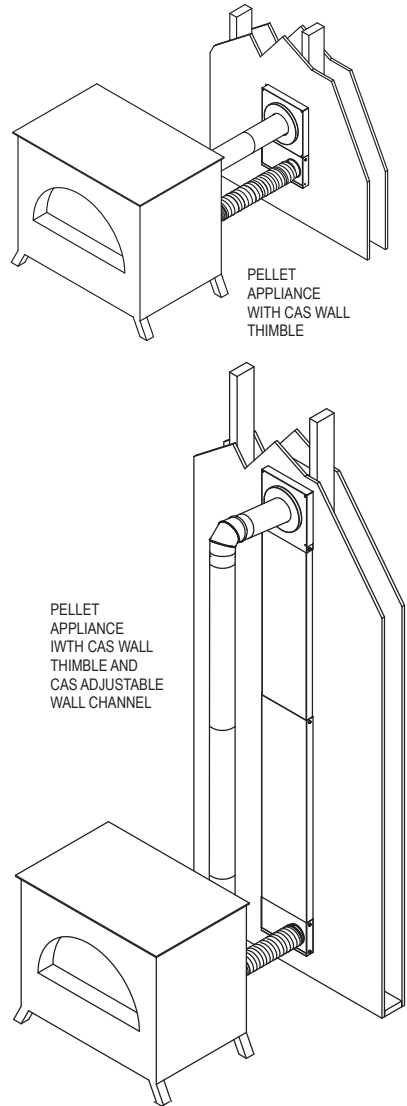

Figure 1
The Simpson Dura-Vent's CAS system for PelletVent Pro can be used for horizontal (through-the-wall) installations; the CAS system cannot be used with vertical (through-the-ceiling) installations. The CAS system is designed to connect to the stove's air-inlet while still safely venting the exhaust. Figure 1 shows two typical styles of installation using the CAS system for PelletVent Pro, the first goes directly out the back of the unit using the Wall Thimble, the second uses the Wall Channel and the Wall Thimble for when vertical rise is needed.
Step 2. Determine the location of the CAS Wall Thimble. The CAS Wall Thimble should be located between wall studs and to allow a convenient connection for the air inlet of the appliance. Avoid cutting wall studs if possible. Depending on your installation, you may or may not need to use the Adjustable Wall Channel. The Adjustable Wall Channel is used for installations where the wall penetration is higher on the wall than the flex length can reach. If using the CAS Adjustable Wall Channel, position the CAS Wall Thimble so that the channel will be positioned directly behind the appliance. If the CAS Adjustable Wall Channel is not used, make sure the CAS Wall Thimble is positioned so the intake-air flex can reach the air inlet of the appliance (**Fig 1**).